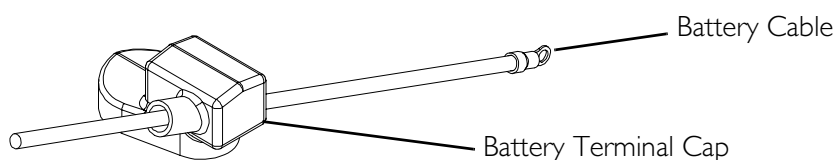
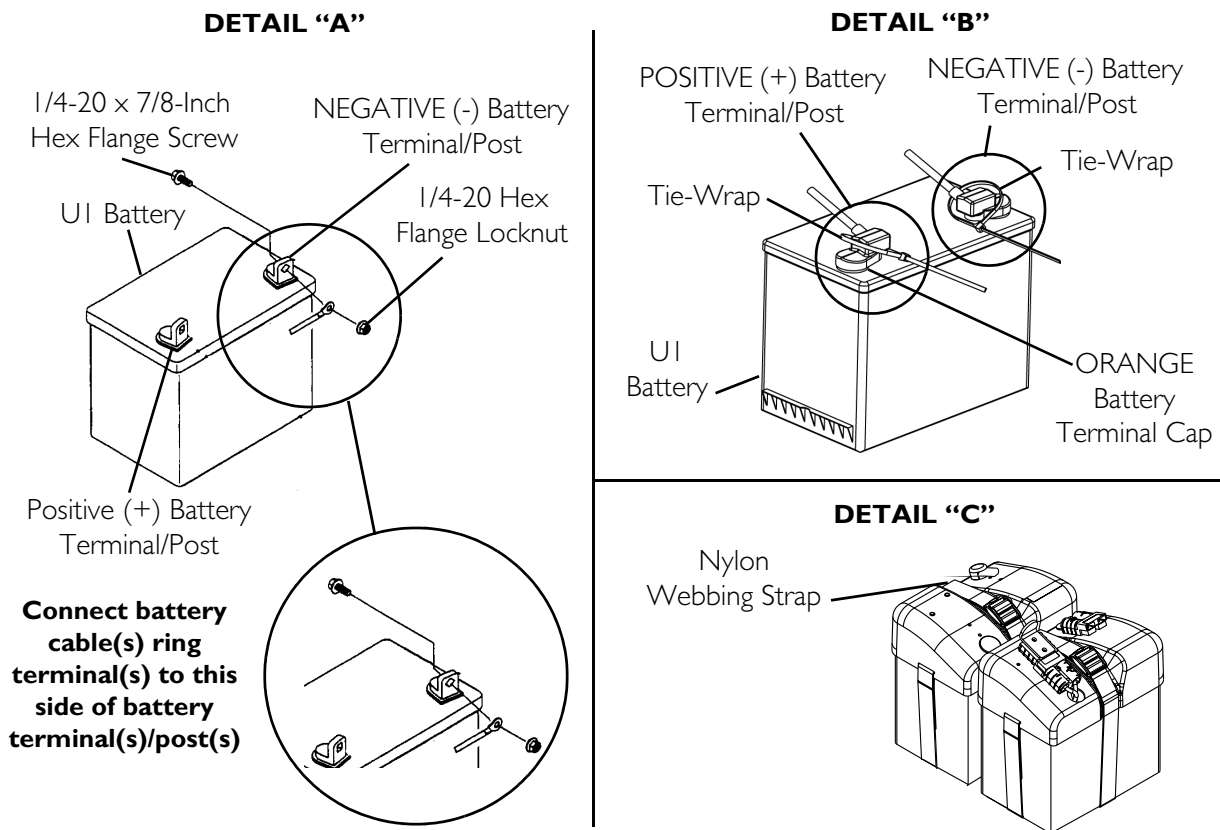
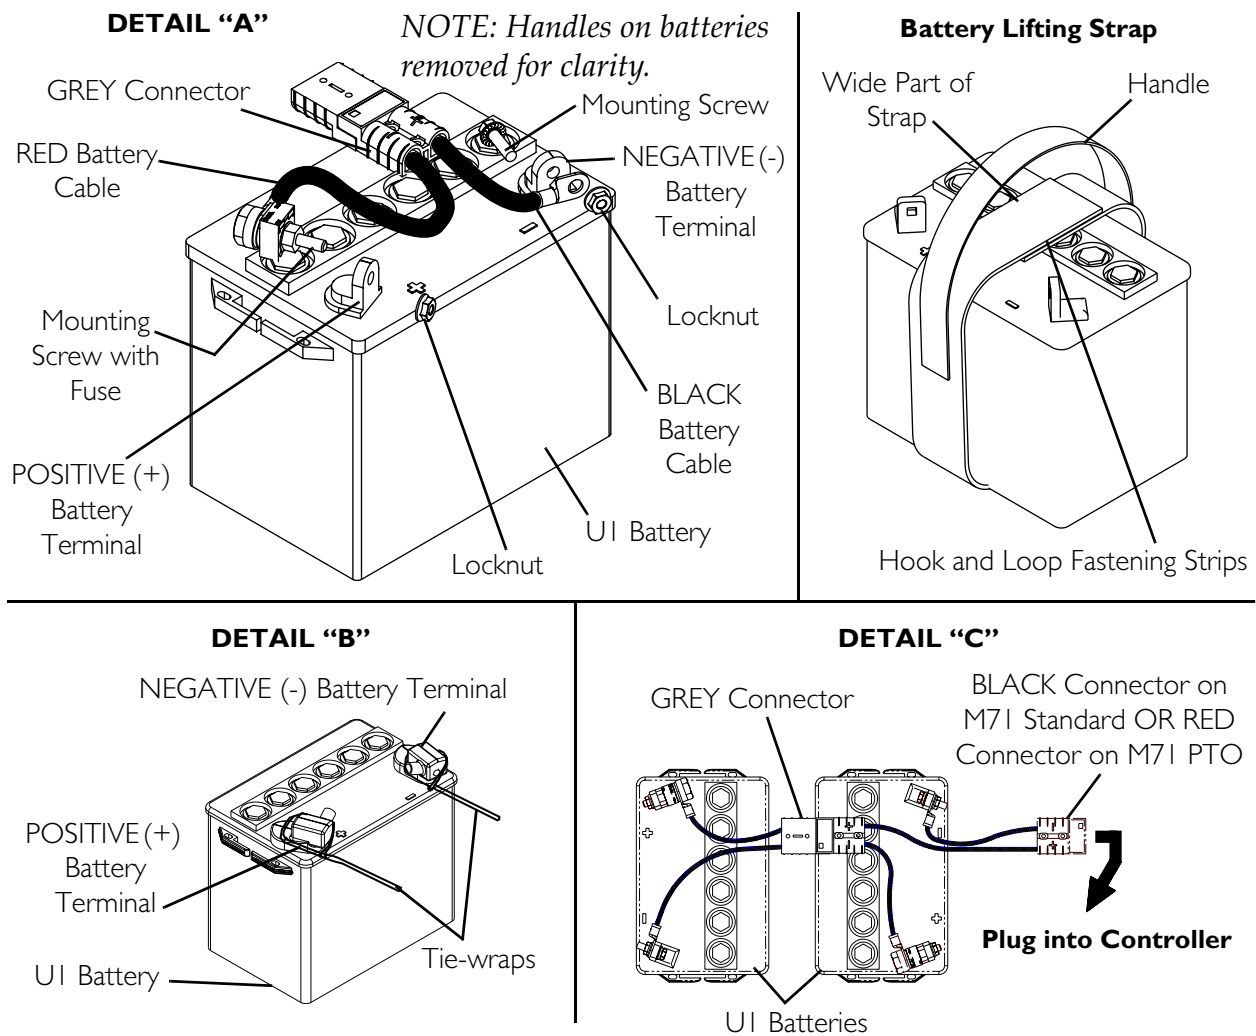

FIGURE 10.3 Connecting Battery Cables
FIGURE 10.4 Connecting/Disconnecting Battery Cables - Wheelchairs Manufactured Before 7/14/03
FIGURE 10.5 Connecting/Disconnecting Battery Cables - Wheelchairs Manufactured After 7/14/03
NOTE: For wheelchairs manufactured BEFORE 7/14/03, refer to FIGURE 10.3 and FIGURE 10.4 on page 92.
NOTE: For wheelchairs manufactured AFTER 7/14/03, refer to FIGURE 10.3 and FIGURE 10.5 on page 93.
1. Install battery terminal cap(s) onto battery cable(s) as follows (FIGURE 10.3):
When connecting the battery cables to the battery(ies), the battery cable(s) MUST be connected to the battery terminal(s)/post(s) as shown in “A” of FIGURE 10.5, (depending on battery type), otherwise damage to the battery cable may result when installing battery terminal caps.
2. Connect battery cable(s) to battery(ies) terminal(s)/post(s) (“A”DETAILDETAILDETAIL of FIGURE 10.4 or FIGURE 10.5).
5. Slide terminal cap(s) down battery cable(s) and onto battery clamps (DETAIL “B” of FIGURE 10.4 or FIGURE 10.5).
- Secure each terminal cap in place with a tie-wrap (use tie-wraps 11-1/2-inches long) (DETAIL "B" of FIGURE 10.4 or FIGURE 10.5).
- If necessary, install the battery box top(s) using the nylon webbing straps and snug the adjuster against the box top (Detail "C" of FIGURE 10.4).
NOTE: For wheelchairs manufactured BEFORE 7/14/03, refer to FIGURE 10.4 on page 92 for this procedure.
NOTE: For wheelchairs manufactured AFTER 7/14/03, refer to FIGURE 10.5 for this procedure.
2. If necessary, disconnect the nylon webbing strap (DETAIL "C" of FIGURE 10.4).
3. Cut the tie-wrap that secures the battery terminal cap in place (DETAIL "B" of FIGURE 10.4 or FIGURE 10.5).
4. Slide terminal cap(s) up on the battery cable(s) (DETAIL "B" of FIGURE 10.4 or FIGURE 10.5).
5. Disconnect battery cable(s) from battery(ies) terminal(s)/post(s) (DETAIL “A” of FIGURE 10.4 or FIGURE 10.5).